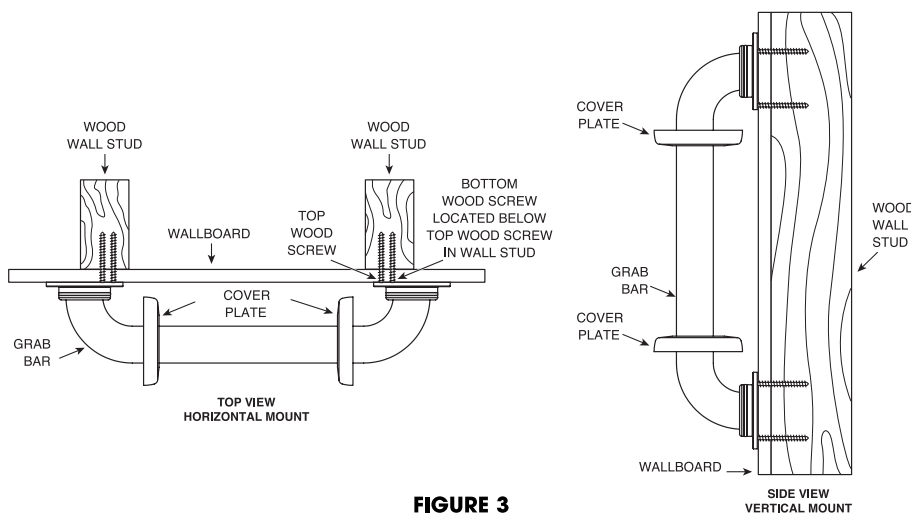

FIGURE 3
4. Insert the **WOOD SCREWS** into one end of the Grab Bar. Screw into wall and wall stud (**HAND TIGHTEN ONLY**) (see Figure 3).